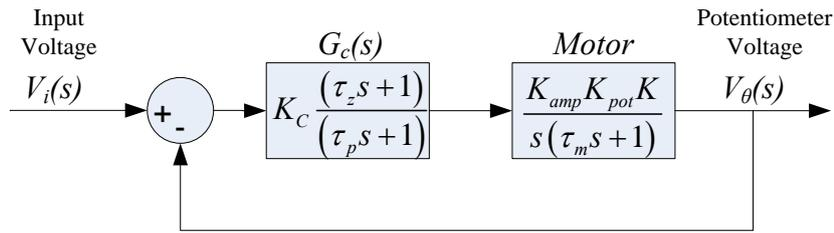

Figure 6.1: DC Motor Lead Controller System.
- Consider the motor controller of Figure 6.1 using the proportional control  $G_c(s) = K_c$ . Develop a Bode plot of the resulting loop transfer function
Using the “Design Procedure for Lead Compensation” (see page 370 in 7th Ed. or page 416 in 8th Ed), design  $G_c$  to obtain this cross-over frequency and phase margin. To avoid poor response or control saturation, keep the DC gain in the range  $2 \leq K_c \leq 4$ . To prevent noise amplification keep your poles and zeros closer to the origin than 500 rad/s. As before, we are interested in the magnitude and phase characteristics of the open-loop response to determine the closed-loop response, using the feedback configuration illustrated in Fig. 6.1.
1. Create a SIMULINK simulation model of Figure 6.1; use the control block diagram and the gains in step (e) of the prelab. Use a **To Workspace** block to store the step response as “V”, and set the “Save Format” to **Array**. In the simulation parameters, use **ODE45** for the best results; to smooth out the curve, set **Max step size** to 0.001. Also, change the stop time to shortly after the transient response finishes (a couple seconds).
9. In *Lab6\_Starter.slx*, connect ports to corresponding signals to create a SIMULINK model that implements Figure 6.1. You may use a **Transfer Fcn** block for the controller. Set the gains to match the low-DC gain controller from part (e) of the prelab.